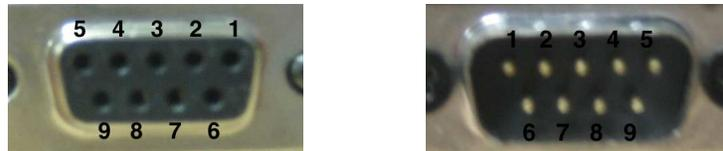

Figure 6: (Left) Female 9-Pin D-Sub Connector (Right) Male 9-Pin D-Sub Connector
**Note:** If you're looking at the soldering cups side, it will be the mirror image of the diagrams appearing in Figure 6!